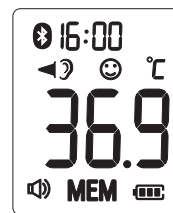

Figure 9
2. The thermometer will automatically memorize the last 30 temperature readings. Each memory also records the measurement date/time/mode icon. Each time the **Button** is pressed, the screen displays past readings that correspond with a number 1-30. The number 1 reflects the most recent reading, while the number 30 reveals the oldest reading stored in memory. (See Figure 9)